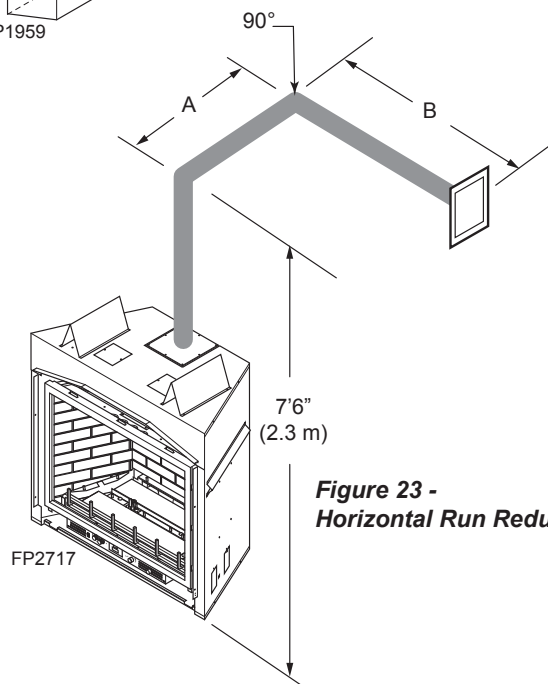

Figure 23 -
- If a 90° elbow is used in the horizontal vent run (level height maintained) the horizontal vent length is reduced by 36" (914 mm). This does not apply if the 90° elbows are used to increase or redirect a vertical rise. *Figure 23*